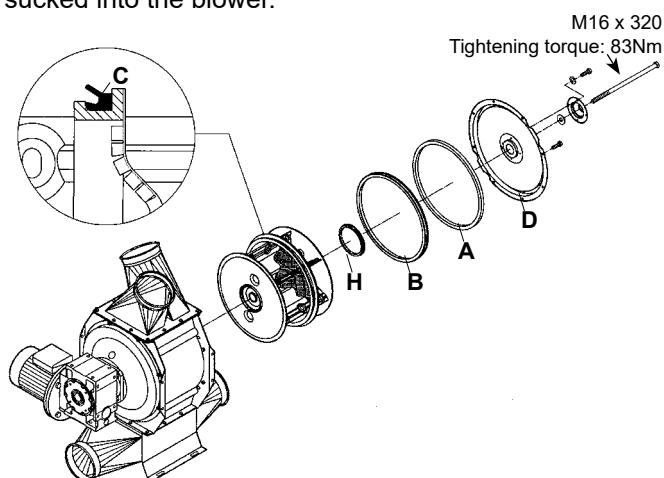

Fig. 5
On each side of the separator a two-piece sealing ring is mounted between the rotor and the end plate. The two-piece sealing ring consists of a pressure ring (A) and a sealing ring (B), see figure 5.
A sealing ring (C) is mounted on the middle of the rotor, see figure 5, avoiding suction of material into the blower. It is important that this sealing ring is working properly, as the blower may be damaged, if material is sucked into the blower.
Please note: Due to the design of the sealing ring (C) being mounted in the middle of the rotor (see figure 5), the easiest way to mount the rotor is to do it from the gear motor side. It is therefore recommended to dismount the gear motor and the end plates, so that the rotor can be mounted from this side.